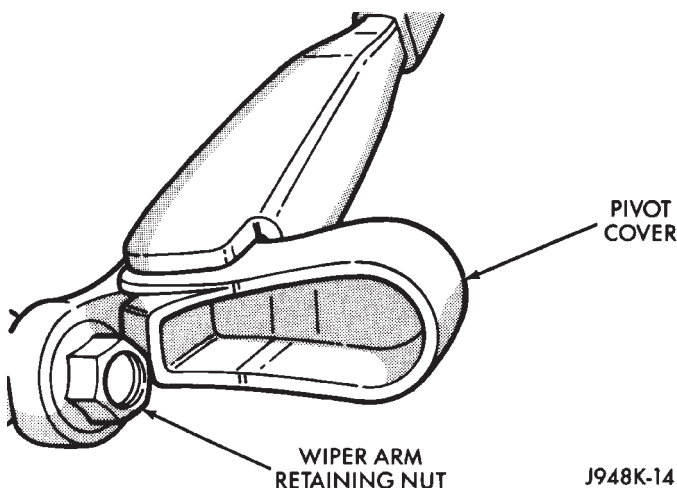

Fig. 7 Rear Wiper Arm Remove/Install
(1) Remove the wiper arm assembly by lifting the pivot cover and removing the retaining nut (Fig. 7).
(2) Remove the arm from the motor output shaft using a rocking motion.
(3) Install the rear wiper arm with the wiper motor in the Park position. Place the rear wiper